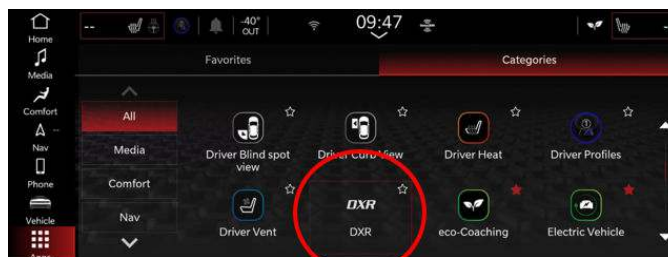

Fig. 2
7. Locate the DXR tile and select it Fig. 2.